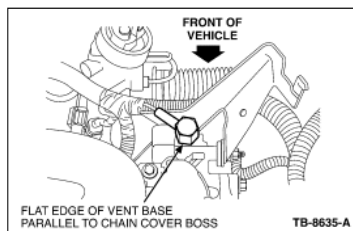

Figure 1 - Article 06-18-13
- Windstar, Freestar, Monterey, Taurus, and Sable with column shifter - Must face to the right rear of the vehicle with the flat edge of vent base parallel to the chain cover boss (Figure 1)